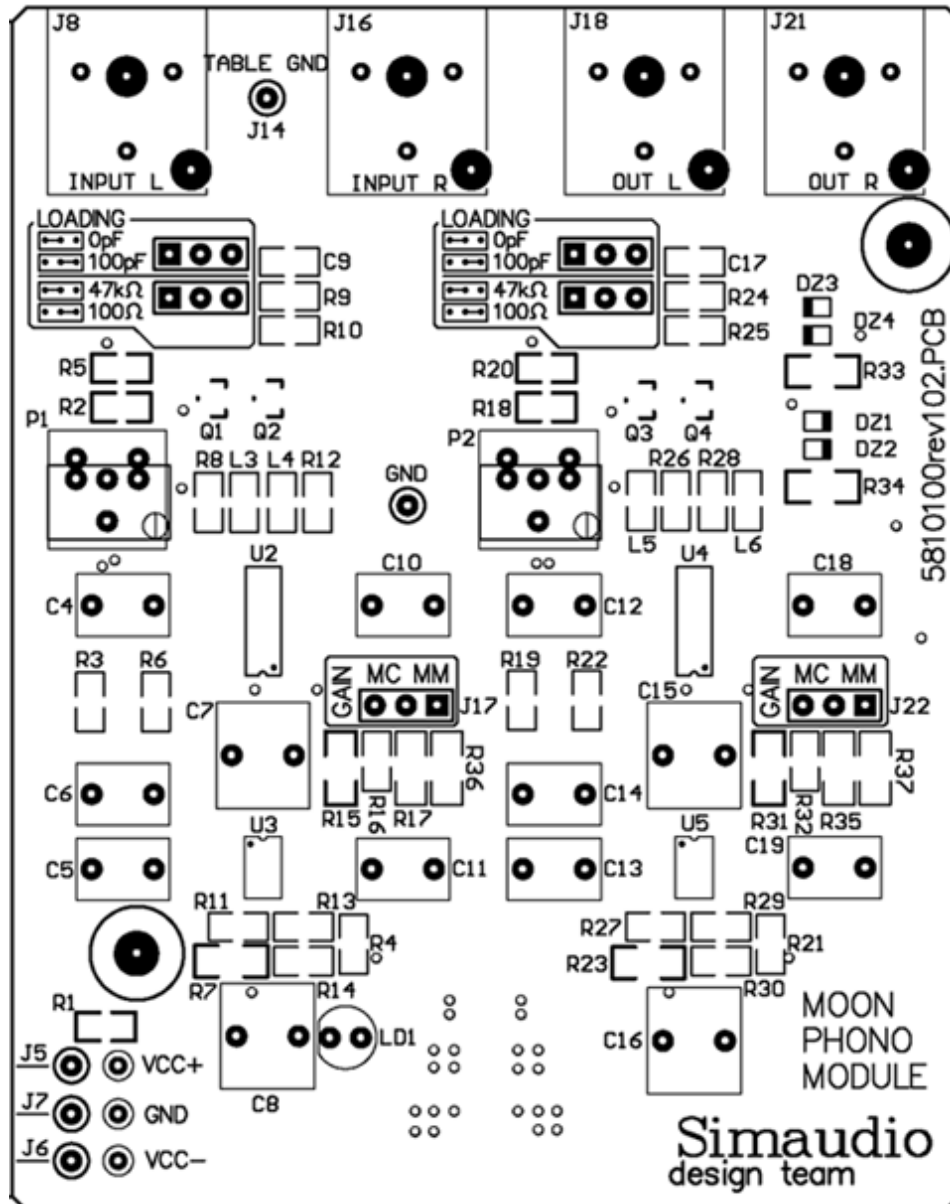

Figure 2: MOON P5.3 SE Optional Phono Section Circuit Board Layout
There are two (2) different settings available for setting the resistive load; 100 Ω and 47k Ω which are represented by jumper sockets R9 for the left channel and jumper socket R24 for the right channel (refer to figure 2 – section labelled "LOADING"). The factory default setting is 47k Ω , therefore both jumpers will be found in each of the two left most sockets.
There are two (2) different settings available for the capacitive load; 0pF and 100pF which are represented by jumper sockets C9 for the left channel and jumper sockets C17 for the right channel (refer to figure 2 – section labelled "LOADING"). The factory default setting is 100pF for a moving magnet cartridge, therefore both jumpers will be found in each of the two right most sockets.
There are two (2) different settings available for gain level. They are 40dB for MM cartridges and 60dB for MC cartridges, which are represented by jumper socket J17 for the left channel and jumper socket J22 for the right channel (refer to figure 2 – section labelled "GAIN"). The factory default setting is for a MM cartridge, therefore both jumpers will be found in each of the two right most sockets labelled MM; ***It is highly recommended that you do not use the jumpers labelled MC for an MM cartridge as this will overload the preamplifier.*** In the event that you're using a MC cartridge, you should insert the supplied jumpers into each of the two left-most sockets labelled MC.